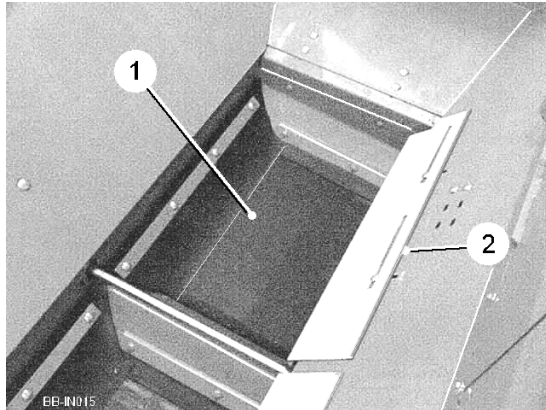
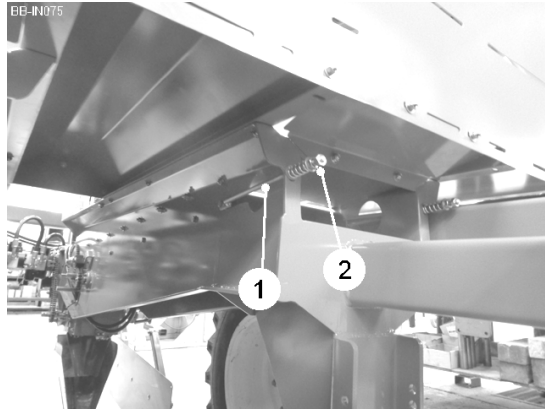

Fig 12
Fig 13
When planting, check that the flow of potatoes from the hopper to the feeding cups is satisfactory and that no 'bridging' occurs. The size of gap between the hopper and the feed belts (item 1, fig 12) can be altered by adjusting the regulator plates (item 2, fig 12).
The feed belts (item 1, fig 12) convey the seed potatoes from the hopper to the feeding pockets. Each feed belt is driven by a hydraulic motor. To create a positive drive, spring loaded tensioners (item 1, fig 13) maintain constant tension on the belt. To alter the tension turn the adjuster nuts (item 2, fig 13). Ensure both sides are adjusted evenly.